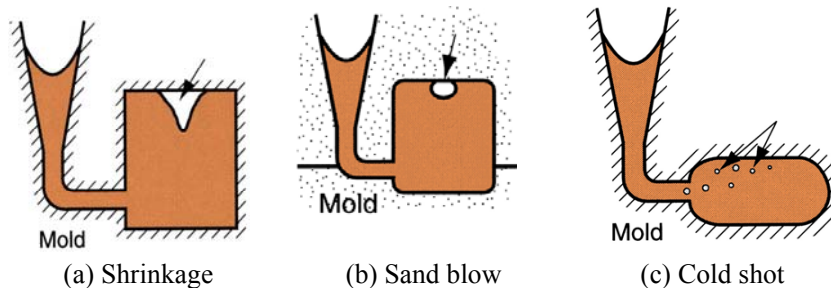

Figure Q3A: Metal casting defects
- (1) pattern of polystyrene is coated with refractory compound
- (2) foam pattern is placed in mold box, and sand is compacted around the pattern
- (3) molten metal is poured into the portion of the pattern that forms the pouring cup and sprue. As the metal enters the mold, the polystyrene foam is vaporized ahead of the advancing liquid, thus allowing the resulting mold cavity to be filled.(2 marks)
D. The defects in Figure Q3A are among the defects occurred in metal casting products. Give the main reason such defect may occur and explain how the defect can be avoided or minimised.